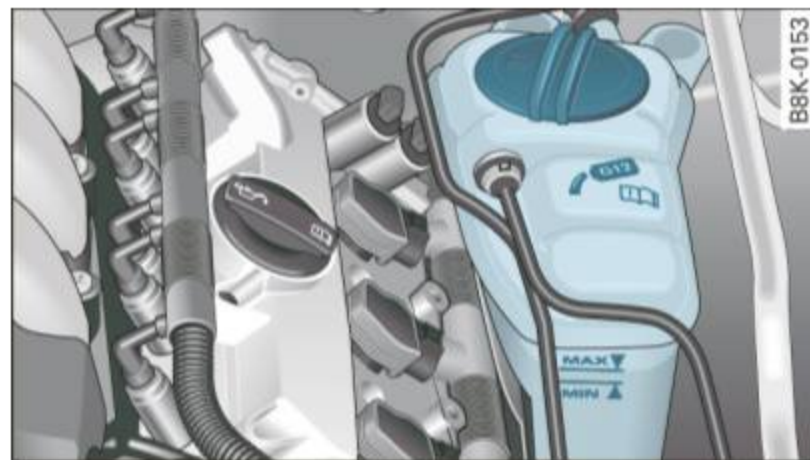

Fig. 215 Engine compartment: Coolant expansion tank
- Read the engine coolant level from the coolant expansion tank ⇒ fig. 215. With a cold engine, the coolant level should be between the “MIN” and “MAX” markings. When the engine is warm, the level may be slightly above the “MAX” marking.
- Place a thick rag over the coolant expansion tank ⇒ *page 278*, fig. 215 and **carefully** turn the cap counter-clockwise ⇒ .